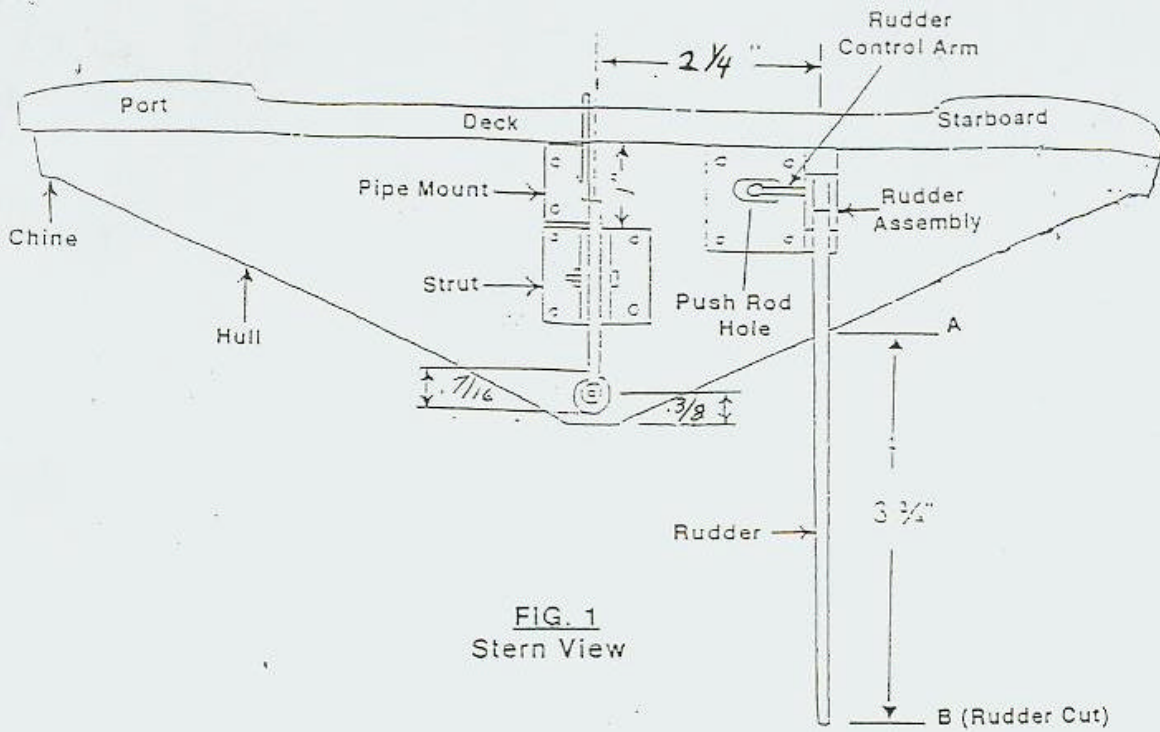

FIG. 1
1. Place the hull on a work-cradle to view the stern; draw a vertical centerline on the transom as shown on Figure 1. Mark a point 3/8-inch up from the bottom Vee and drill a 7/16-inch hole at this point thru the transom. (Note the drilled hole should just clear the fiberglass floor on the inside hull.)
2. The Strut Assembly package (2b) includes the strut with adjustment slot, two L-mounting brackets, plus mounting hardware. Refer to Fig. 1, Fig. 2 & Pic. #4 and assemble the strut snugly between the two L-brackets to allow up & down slot movement; note that the L-brackets must be evenly aligned on the bottom. Position this assembly on the transom one-inch below the deck as shown on Fig.1. The strut's rear opening should roughly line-up with the 7/16-inch transom hole and be 2 inches away from the transom as shown in Fig. 2.). Mark the 4 L-bracket mounting holes and drill thru the transom with a 9/64 bit. Mount the assembly with the supplied cap screws & locknuts. (Use silicone sealer in these and all later mounting holes to reduce water entry.)
1. Use the centerline on the transom and measure 2-1/4 inches to the starboard (right). Refer to Fig. 1 & Pic. #4 and place the rudder assembly (2c) accordingly on the transom Mark the bracket's 4 mounting holes and a center hole in the bracket slot used for the rudder's push rod. Drill thru the transom the 4 bracket holes with a 11/64 bit and use a 1/4-inch bit for the push rod hole. Fasten the rudder bracket to the transom with the Four 8/32 cap screws & locknuts included in the rudder package.
2. Refer to Fig. 1 again and mark the rudder at the point where it intersects the hull (Point A) Placing a straight edge out horizontally at Point A, measure down 3-3/4 inches and mark the rudder again (Point B). Cut the rudder off at Point B for optimum boat control.
2. Refer to Fig. 1 & Pic. #4 and set the L-bracket on the transom directly above the strut's left-mounting bracket. (The L-bracket's bar should face aft & up.) Mark the bracket's 2 mounting holes and drill thru the transom using a 9/64 bit. Fasten the L-bracket to the transom with the cap screws & locknuts supplied in the pipe mount package.
2. Holding the above Radio Box position, insert a 1/4 drill bit through the transom's rudder bracket push-rod hole and drill a straight hole into the Radio Box, which lines-up With the blade tip on the servo horn. At this time refer to Fig 1. And drill a 2nd hole (1/4-inch) in the transom which is about 3/4-inch starboard of the rudder mounting bracket. This 2nd hole will be used later for a water intake line.
- b. Interconnect the starboard side water jacket fitting to the water pick-up fitting located top-aft on the boat rudder. Again use the excess large fuel line for this connection but route the line thru the pre-drilled 1/4-inch hole in the transom as shown in Fig. 1. Inside the boat cockpit dress this line under the starboard-side decking to maintain a good appearance; discard any remaining large line.